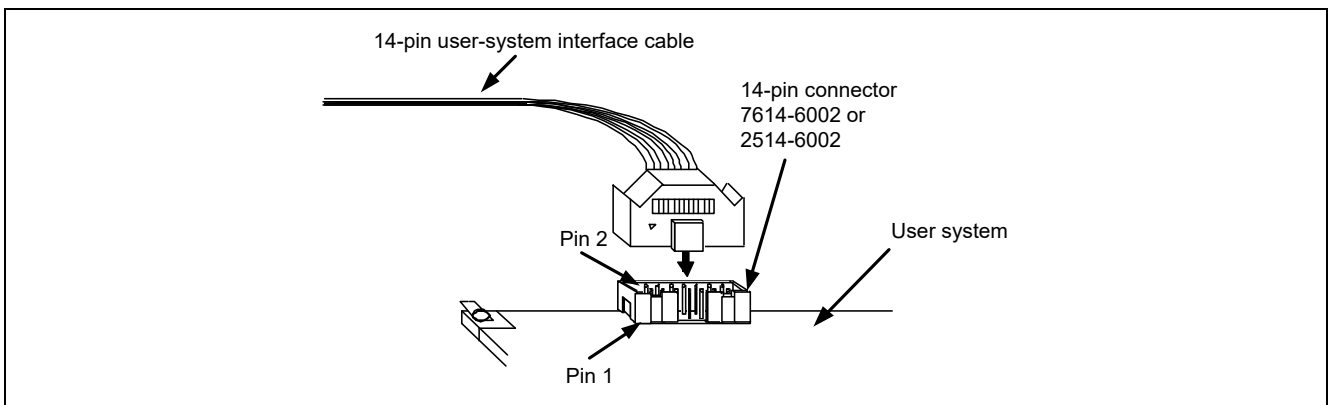
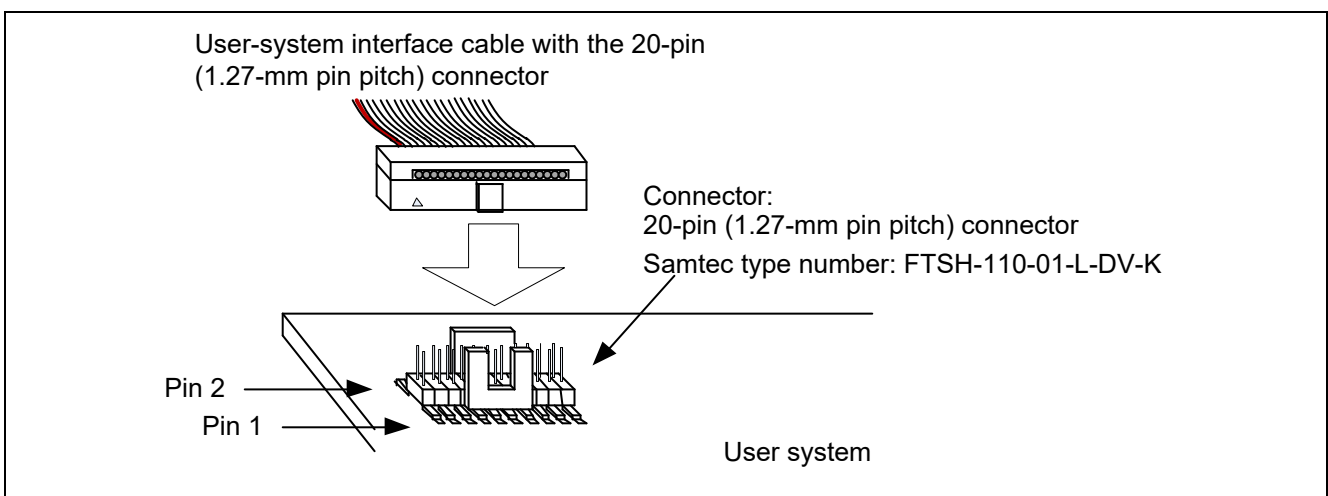

Figure 2.3 Connecting the User-System Interface Cable to the 14-Pin Connector when the E2 Lite is to be Used
Figure 2.4 Connecting the User-System Interface Cable to the 20-Pin Connector when the E2 Lite is to be Used
- (3) For the pin assignments of the connector, refer to the additional document for user's manual for the E1/E20 emulator or E2 emulator Lite which corresponds to the target MCU.
- (4) Connect one end of the user-system interface cable to the E2 Lite and the other end to the connector on the user system as shown in Figure 2.3 and Figure 2.4.